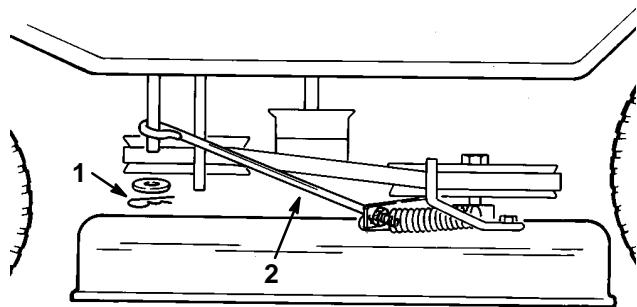

Figure 43
9. Install the blade control rod onto the blade control arm and secure it with the washer and hair pin cotter (Fig. 43).